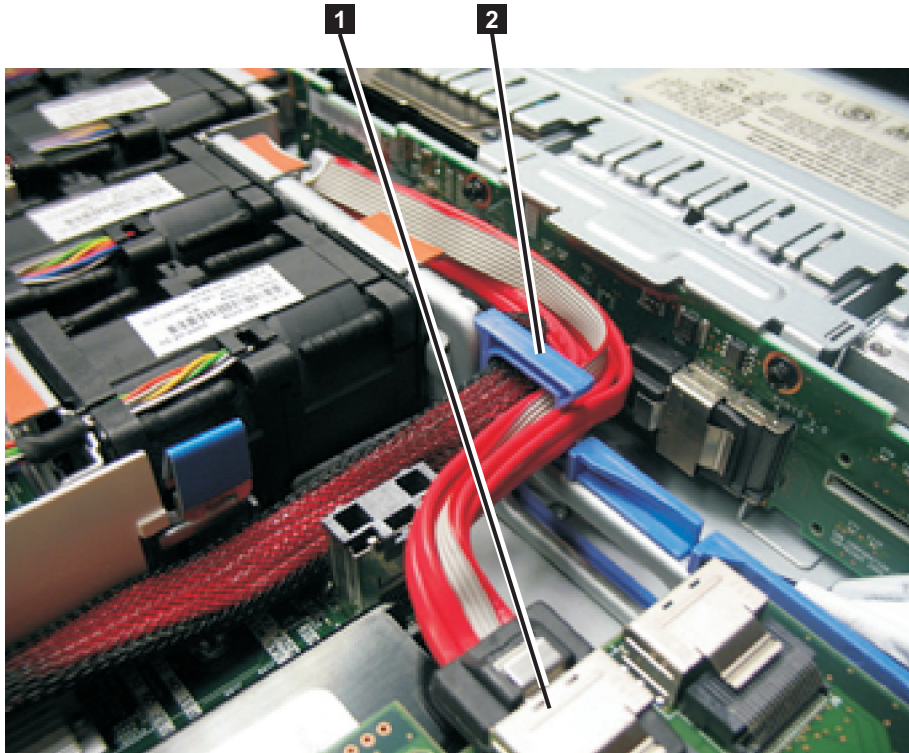

Figure 197. Boot-disk SAS cable routed through the blue bulkhead clip and connected to the SAS disk controller in the SAN Volume Controller 2145-CF8
- The high-speed SAS cable is shown in Figure 197 on page 212.